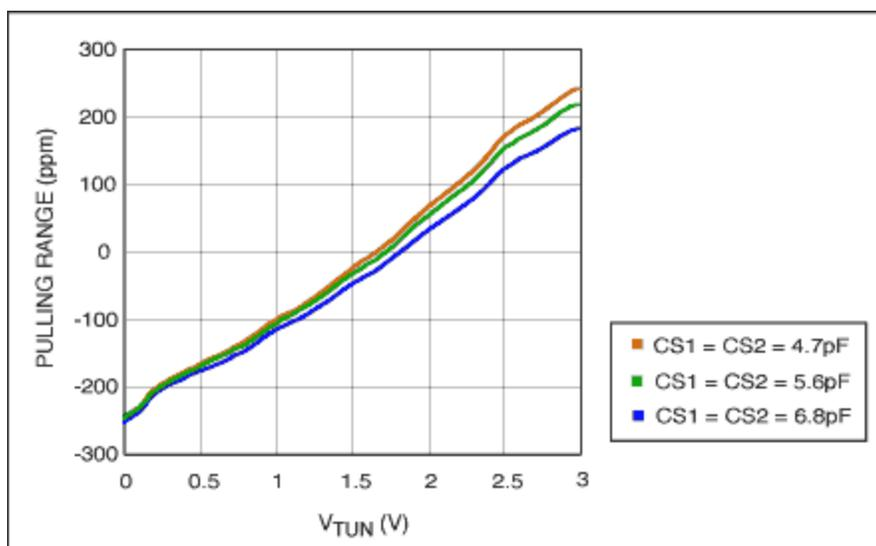
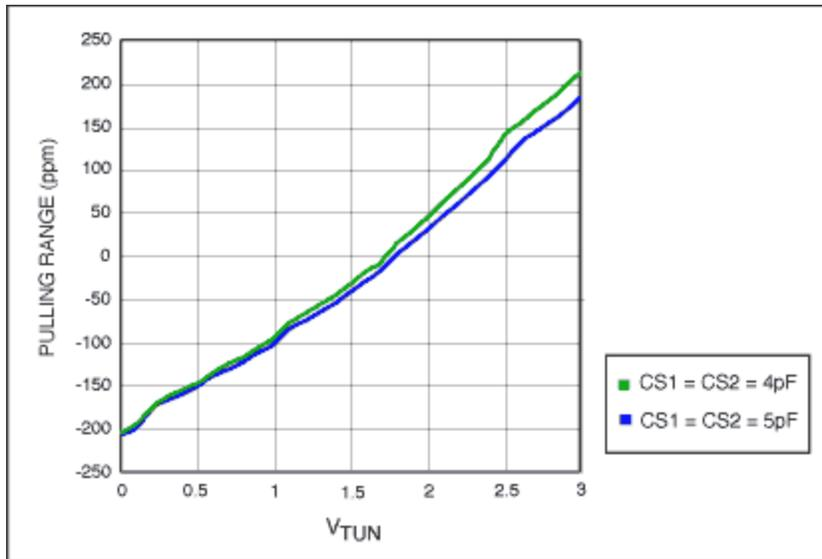

Figure 3.
Figure 4.
The quality and characteristics of a VCXO CLK generator can be affected by the selection of crystals and the PCB layout. In selection of crystal, beside the frequency, package, accuracy, and operation temperature range, for a VCXO application, users must pay attention on the equivalent series resistance and loading capacitance. The series resistance provides a power consumption measure of the crystal. The less the resistance value is, the easier the oscillator starts up. The loading capacitance is an important parameter for a crystal. First of all, it determines the resonating frequency of the crystal. Normally, the marked frequency of a crystal implies the resonating frequency of the crystal after connected the specified loading capacitance in parallel with it. It should be pointed out that this marked frequency is equal to the value obtained from Equation (1) when  $C_L$  equals to the specified load capacitance, but this is not the value from  $1/(2\pi\sqrt{L_1C_1})$ . Therefore, it is clear that the tuning range of a VCXO is closely related to the value of  $C_L$ . For a small value of load capacitance, the VCXO tuning range is limited in upper side; likewise a large value of the capacitance reduces the tuning range in lower side. The right value of loading capacitance to use is depending on the character of the VCXO. For instance, in MAX9485 design to balance the tuning range, the center of the tuning curve, and the ease of board design, we have chosen a 27MHz crystal with a 14pf load capacitance from Ecliptek (ECX-5527-27) [2]. With such a crystal, MAX9485 can provide a pulling range of  $\pm 200$ ppm, see **Figure 3**. It should be mentioned that the pulling range of a crystal also varies with the package. Usually, a metal canned package has larger pulling range than surface mounted device (SMD). However, recently DAISHINKU Corp [5] has made a new SMD crystal that can provide a similar pulling range as a metal canned crystal. We have tested the SMD crystal (DSX530GA) and found out that the tuning range is about  $\pm 200$ ppm with two 4pf shunt capacitors, see **Figure 4**.